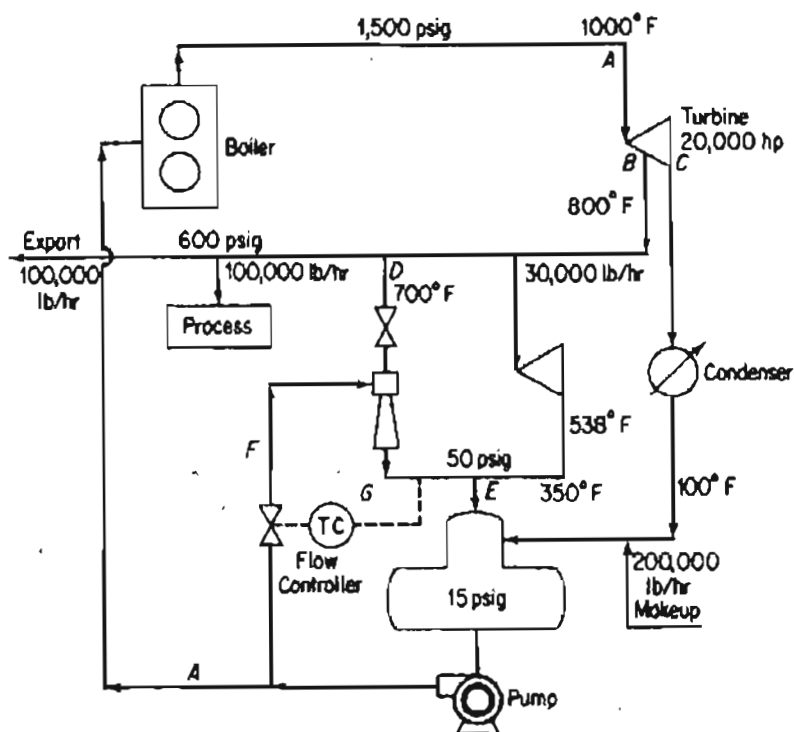

Figure P31.3
- 31.3** The stream flows for a plant are shown in Figure P31.3. Write the material and energy balances for the system and calculate the unknown quantities in the diagram (A to F). There are two main levels of steam flow: 600 psig and 50 psig. Use the steam tables for the enthalpies.